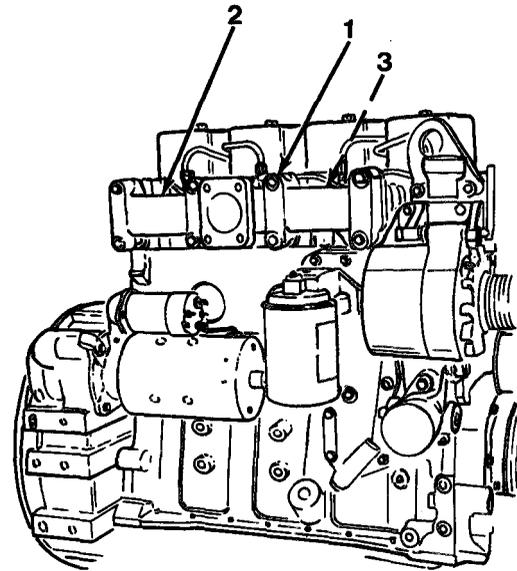

Figure 8-1
2. Using a 13 mm socket, remove eight cap-screws (1), manifold (2) and four gaskets (3, Figure 8-1). Remove all gasket material from mounting surfaces.